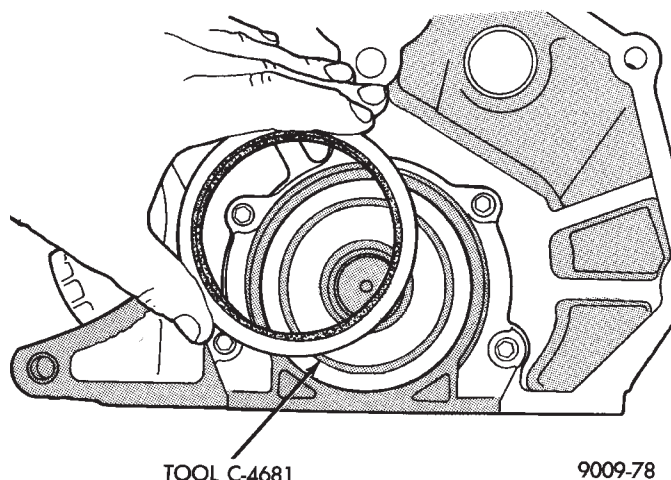

Fig. 55 Rear Crankshaft Oil Seal—Installation
(1) Place Special Seal Pilot Tool C-4681 on crankshaft (Fig. 55).
(2) Lightly coat seal O.D. with Loctite Stud N' Bearing Mount or equivalent.
(3) Place seal over Special Seal Pilot Tool C-4681 and tap in place with a plastic hammer.